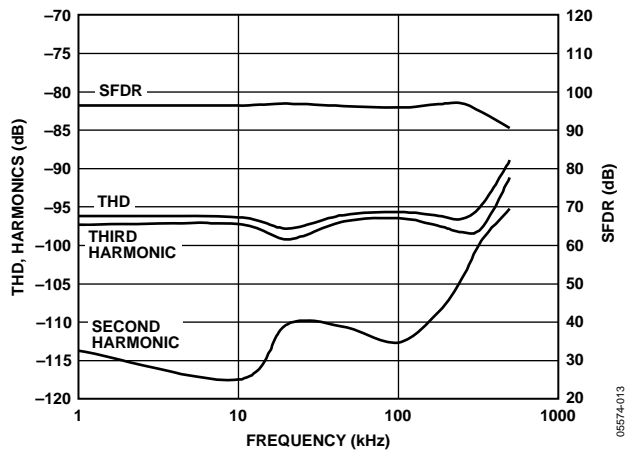

Figure 13. THD, Harmonics, and SFDR vs. Frequency
- The driver needs to have a THD performance suitable to that of the AD7623. Figure 13 gives the THD vs. frequency that the driver should exceed.